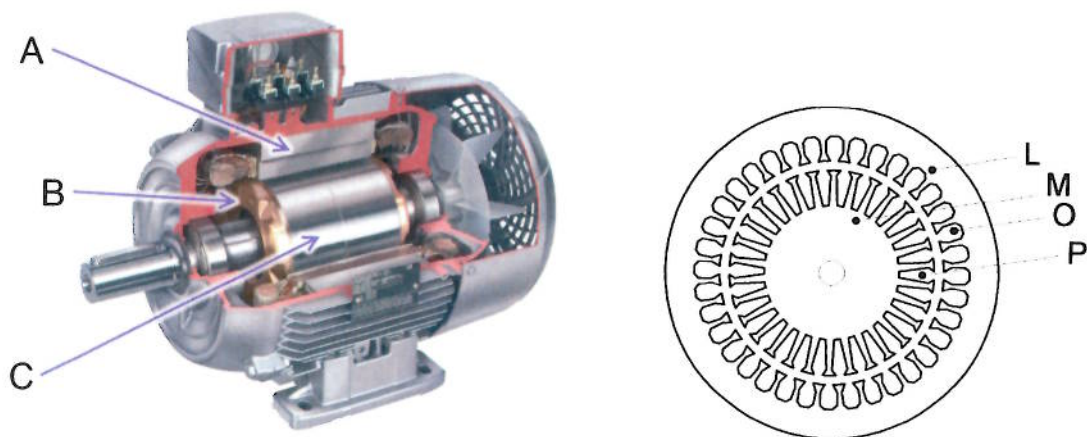

Figure 2. Cut-away and cross-section of an induction machine
- a) Figure 2 shows a cut-away of an induction machine and a cross-section through the machine showing the shape of the laminations.